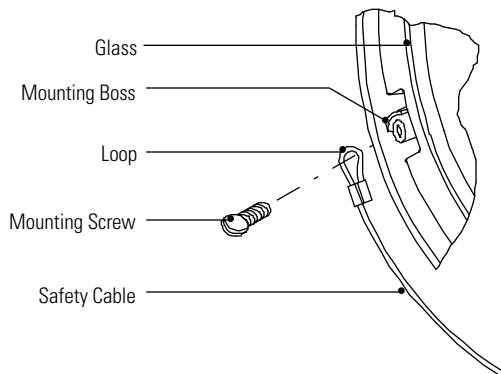

FIG. 2
7. Position **Backplate** over **Crossbar** allowing **Crossbar Mounting Screws** to come through **Holes** in **Backplate**. Secure **Backplate** in position by installing (2) **Battery Nuts** over **Crossbar Mounting Screws** and tighten.
9. Position **Screw** through **Loop** in **Safety Cable** and thread **Screw** into **Mounting Boss** on inside of **Lens Assembly** (Fig. 2).